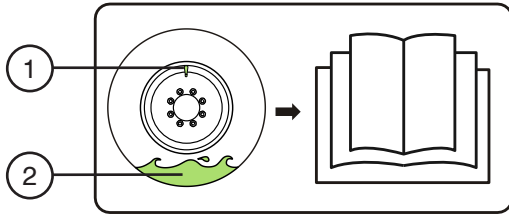

Figure 3-6. Tire Sealant Label
- **When depressurizing, inflating or checking tire pressure, ensure that the valve stem is at the top to prevent sealant from entering the stem (refer to Figure 3-6).**